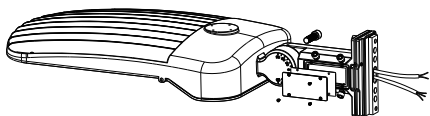

Figure 7
Step 1: Remove the bracket mounting screws on the fixture, open the side lid of bracket and run the wires through the bracket. (Figure 7)